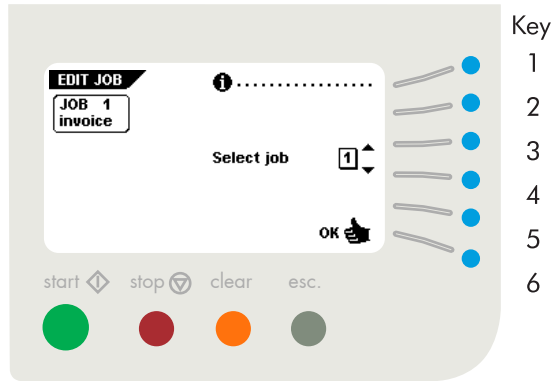
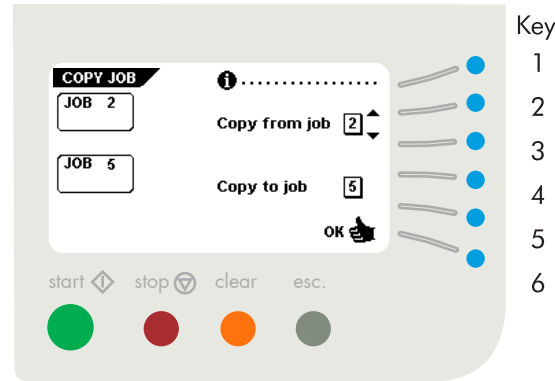

Fig. 31
Fig. 32
When key 3 in the "job menu" is pressed, the display shows the "edit job" menu as shown in Fig. 31. The initially selected job will be displayed. The "edit job" menu shows the following functions:
- Job information (key 1).
- choose a higher job number to edit (key 3).
- choose a lower job number to edit (key 4).
- select the job to edit and confirm with "OK" (key 6) which will get you to the "job settings" menu. All job settings are described in 6. Job settings on page 20.
After pressing key 4 in the "job menu", the display shows the "copy job" menu as shown in Fig. 32. The "copy job" menu shows the following functions:
- job information (key 1).
- choose a higher job number to copy from (key 2).
- choose a lower job number to copy from (key 3).
- choose a higher job number to copy to (key 4).
- choose a lower job number to copy to (key 5).
- copy the job with "OK" (key 6) which will get you to the "job menu".